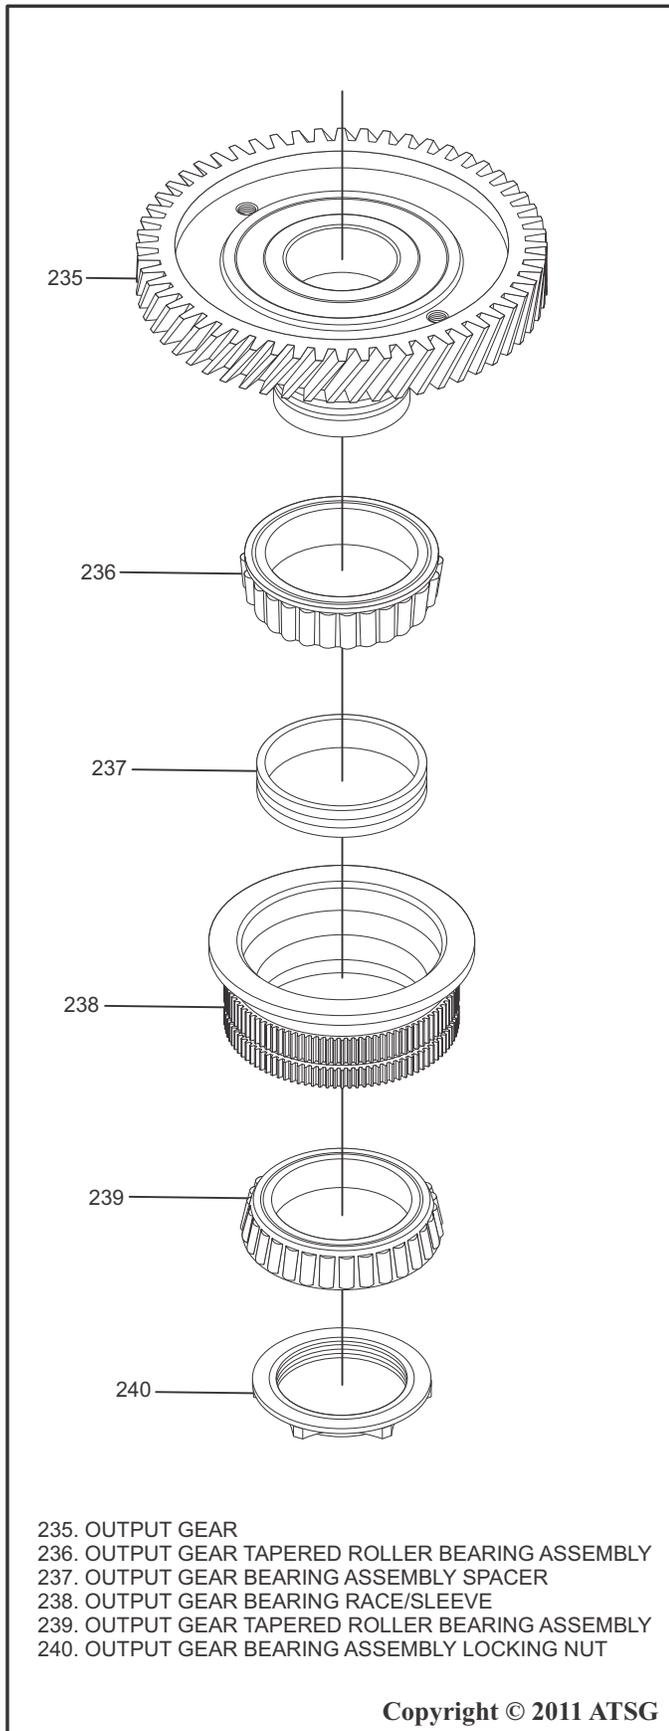

Figure 208
*Note: It is not recommended to disassemble the Output Gear Assembly. The exploded view diagram shown in Figure 208 is provided for illustration purposes only.*
2. Inspect the output gear assembly for wear or damage using the diagram in Figure 208 as a reference. If any wear or damage is observed, replace the output gear assembly.